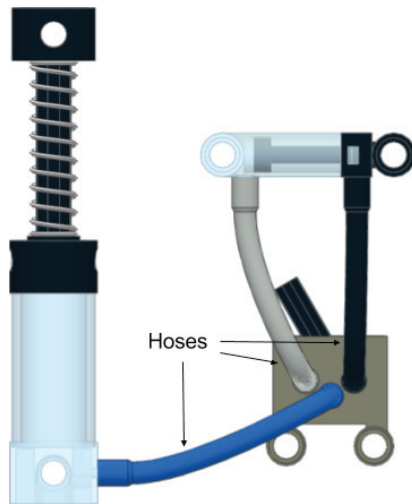

Figure 4 - Classic pneumatic circuit
**Figure 4** shows the classic LEGO® pneumatic circuit showing the most basic pneumatic components. It contains a pump for making air pressure, a switch for controlling the airflow, a piston for making parts of a LEGO® model move, and hoses to